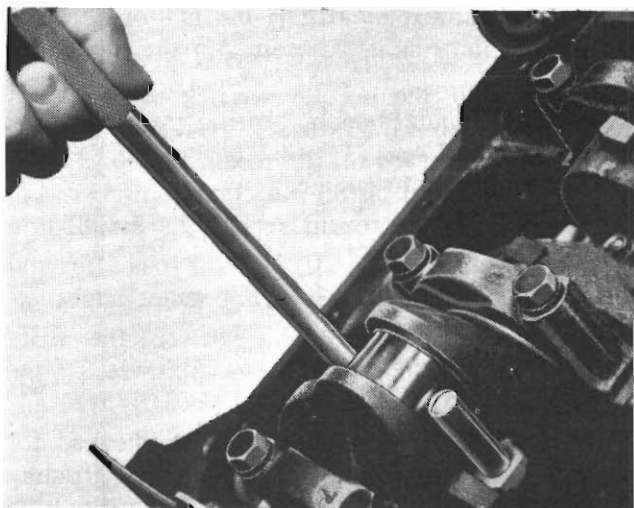

Fig. 43 - Removing and installing connecting rod (Tool E9C50D)
(6) Insert rod and piston into cylinder bore and guide rod over the crankshaft journal (Fig. 43). Be careful not to nick connecting rod journals.